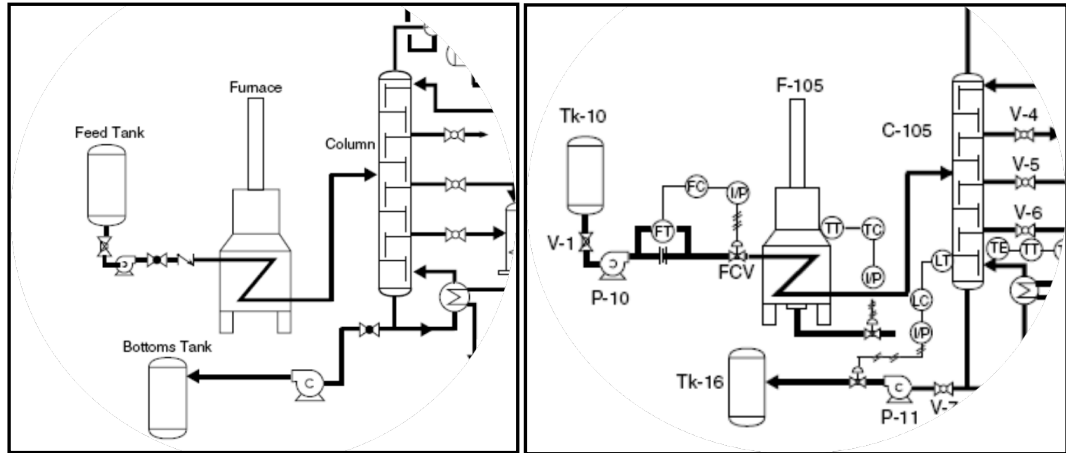

Figure A3c / Rajah A3c
- c) The flow of materials and the equipment used in the process are depicted in Figure A3c. Write the difference of both diagram.